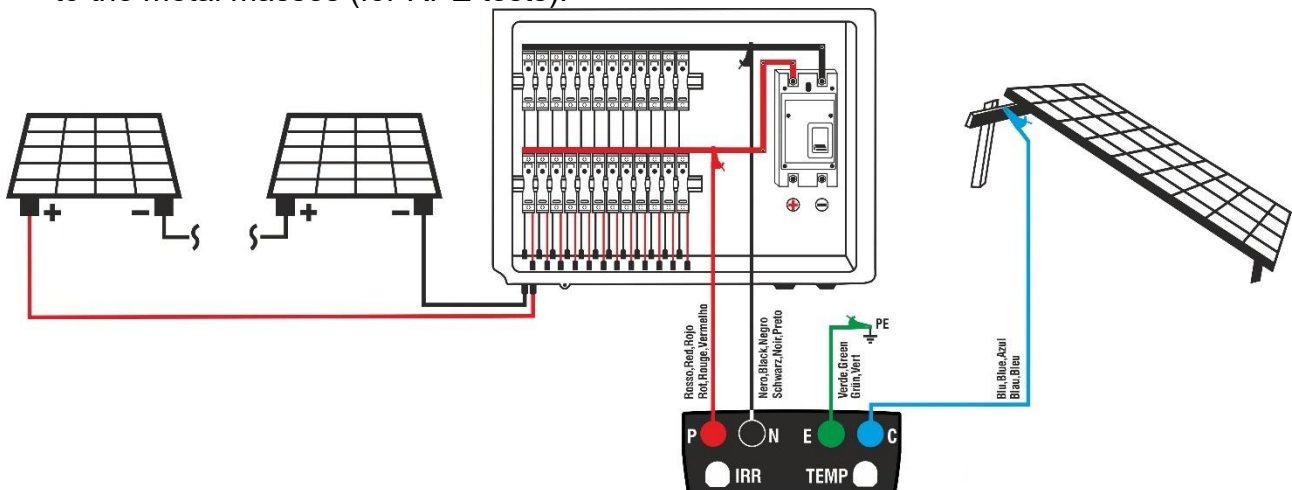

Fig. 16: Connection for IVCK tests with Start&Save function
7. Connect the instrument as shown in Fig. 16. In particular, connect the negative pole of the bar to the **N** input via a fixed connection with a crocodile terminal, the positive pole of the bar to the **P** input via a fixed connection with a crocodile terminal, the main earth